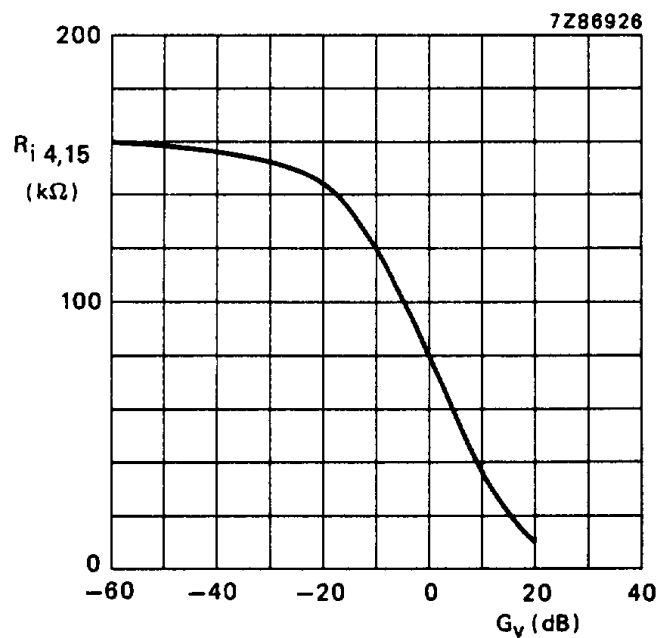

Fig.4 Input resistance (R_i) as a function of gain of volume control (G_v). Measured in Fig.1.
- Equation for input resistance (see also Fig.4)